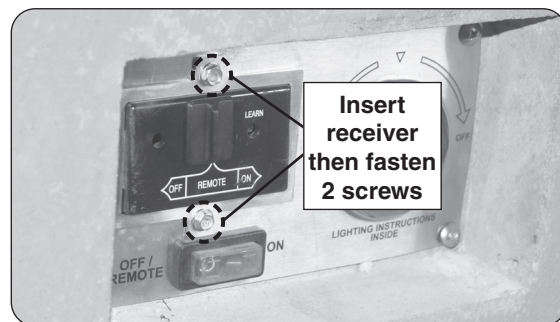

Fig. 33-1 Remove remote receiver assembly
6. Use a $\frac{1}{4}$ " nut driver to unfasten the remote receiver bracket assembly found on the control panel (2 screws). Then carefully remove the assembly. See Fig. 33-1.